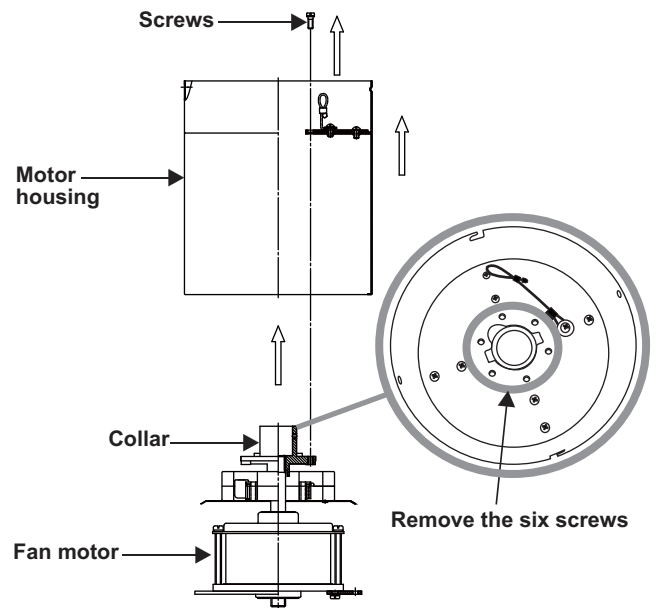

Figure 4
1. Remove the motor housing from the fan motor by removing the six screws from the rim of motor housing. (Fig. 4)